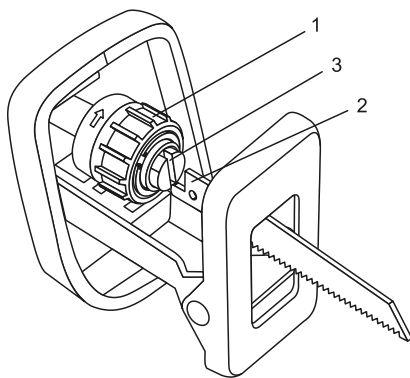

Figure 1
1. To install a blade in the saw, rotate the blade locking sleeve (1) counter clockwise (Fig. 1).